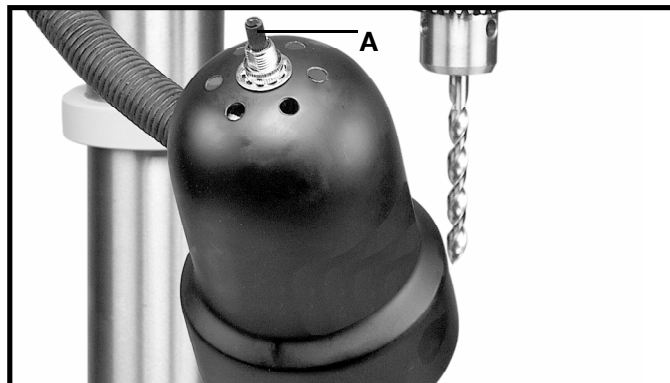

Fig. 19A
The flexible lamp operates independently of the drill press. To turn the lamp “**ON**” and “**OFF**”, rotate switch (A) Fig. 19A.